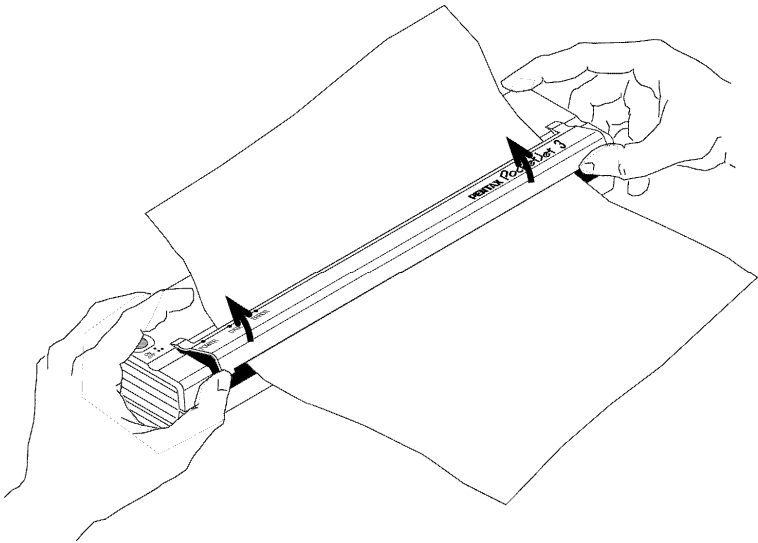

FIGURE 15. Opening the release cover
- If the printer *does not* start to print immediately, open the release cover as far back as it will go. See Figures 15 and 16, pages 43 and 44. Pull the paper out, close the cover, and reinsert paper.
See Figure 15.